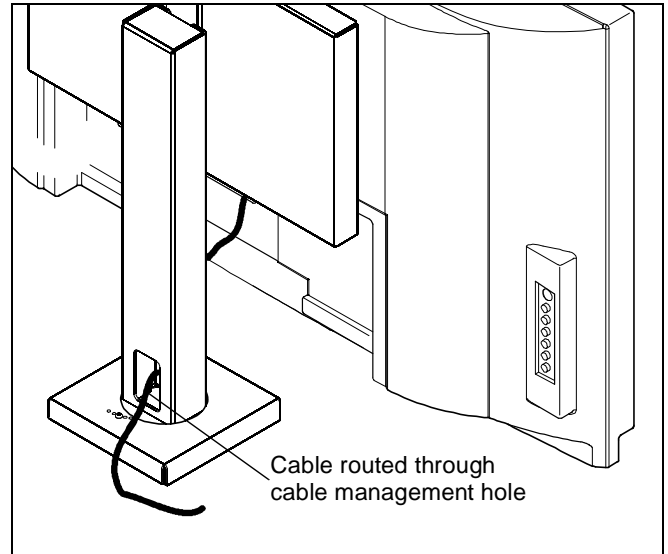

Figure 8
1. Route display cables and wiring either through front inside of post and down through mounting surface, or through cable management hole at base back. (See Figure 8)